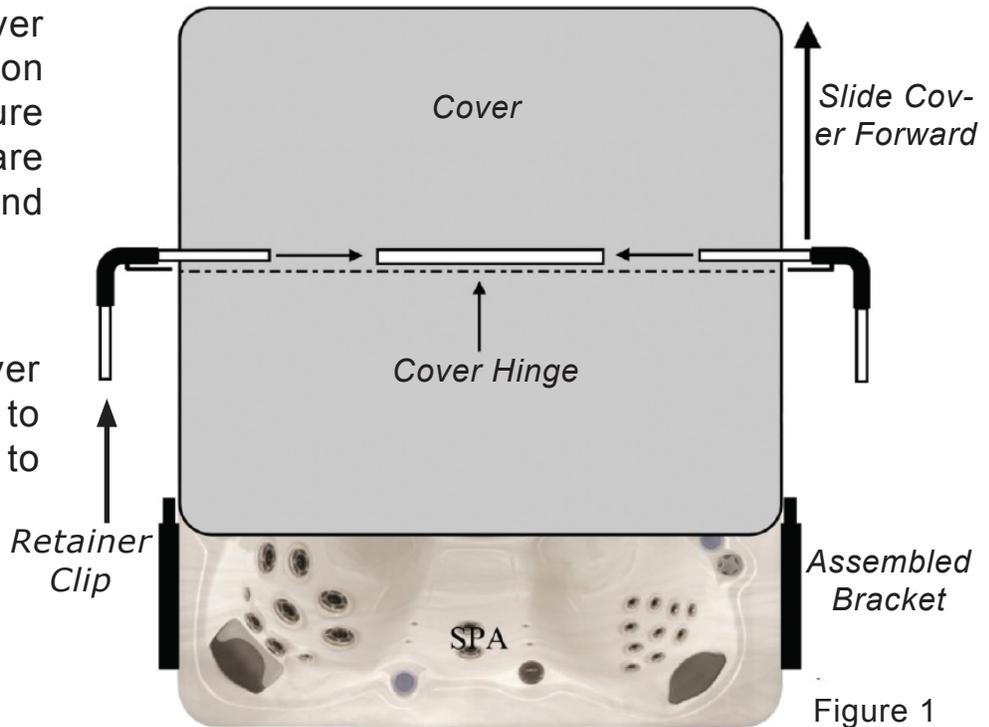

Figure 1
4 Take one of the **Support Arms (D)** and slide the thin retainer clip that's welded to the support arm (see Figure 1) under the cover in between the 2 sides of the cover. The main support arm should rest on the top of the cover next to the hinge.